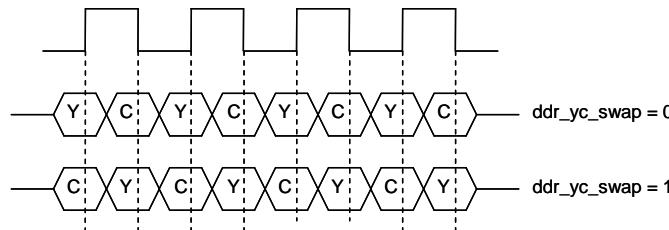

Figure 30: DDR Mode, Luma and Chroma Swap
Once a DDR mode is selected using **vid_format_sel[4:0]**, the order of the luma and chroma data can be configured using **vid_ddr_yc_swap**. In DDR modes, the luma is expected on the rising edge of the pixel clock. Setting this bit to 1 swaps the luma and chroma samples and places the chroma sample (C) on the rising edge and the luma sample (Y) on the falling edge. Refer to Figure 30 for more information. The edge on which each sample of DDR data is latched into the part can be specified using **vid_ddr_edge_sel**.